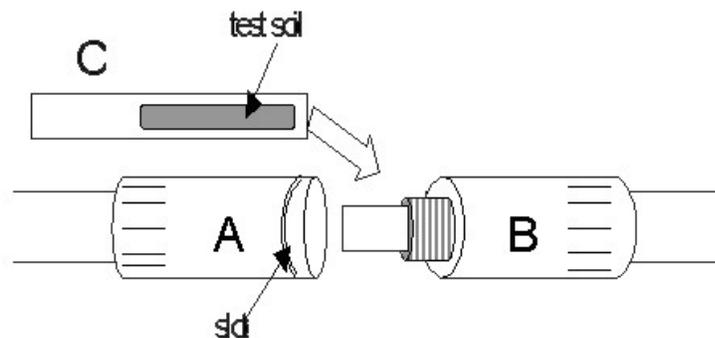

Figure 1
1. Testing is done in an empty machine; no scope attached. (*See Figure 1 for steps 2 – 4*)